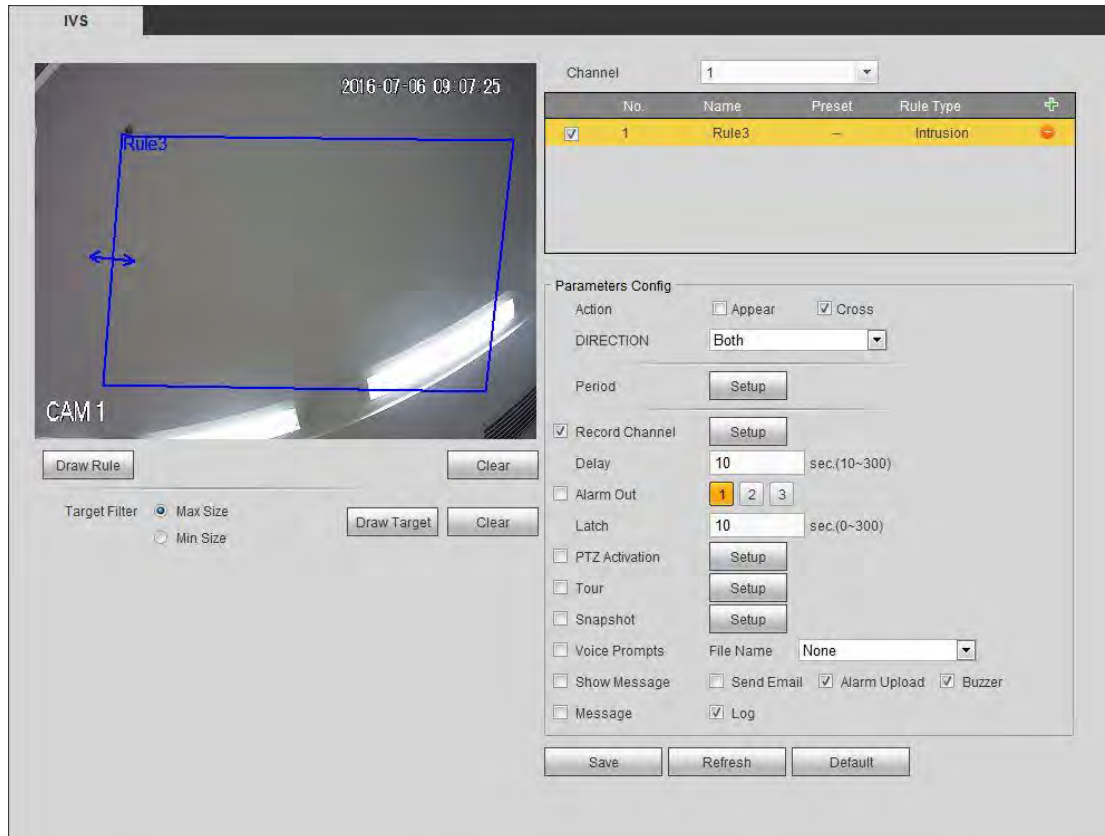

Figure 5-81
Step 3 Click Draw rule button and then left click mouse to draw an intrusion rule. Right click mouse to complete. See Figure 5-81.